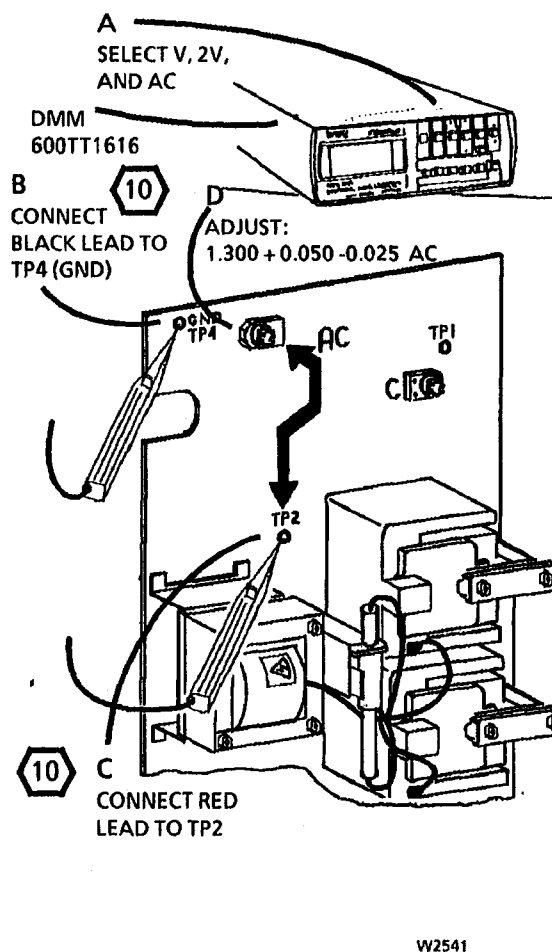

Figure 4. Adjustment of the Detack Corotron
11. (Figure 4): Adjust the detack corotron voltage.